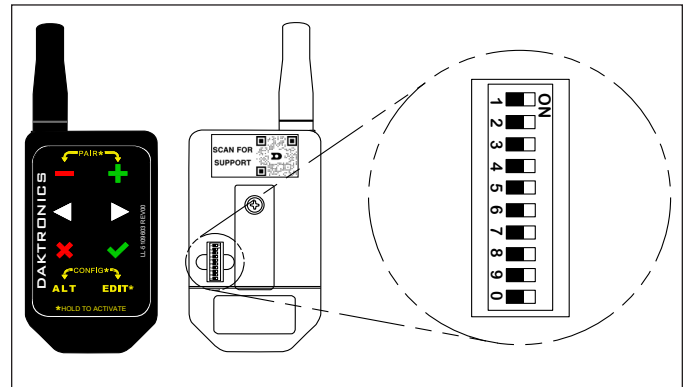

Figure 4: FLR5 Key Fob
1. Remove the small cover on the back of the FLR5-400 key fob. Refer to **Figure 4**.